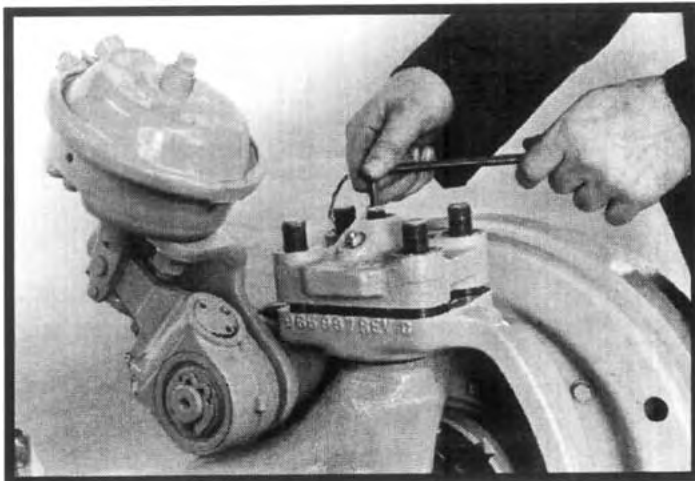

Figure 12
8. Remove the ten 5/8" locknuts which secure the spindle and the dust shield/brake spider assembly. A little persuasion with a soft mallet may be necessary to free up these components. See Figure 12.